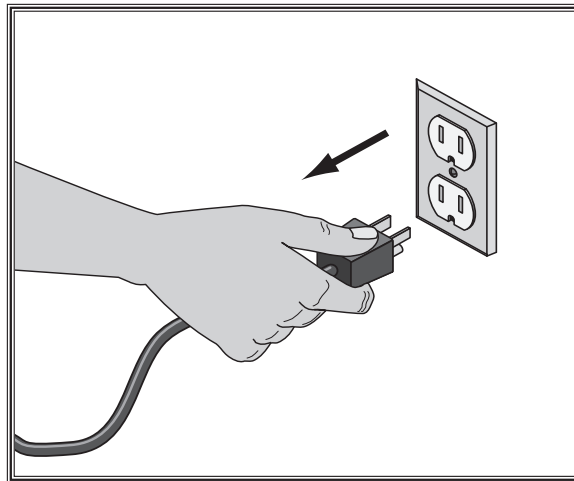

Figure 19. Disconnecting power.
2. Grasp the molded plug and pull it completely out of the power supply receptacle, as shown in **Figure 19**. **DO NOT** pull by the cord as this may damage the wires inside.